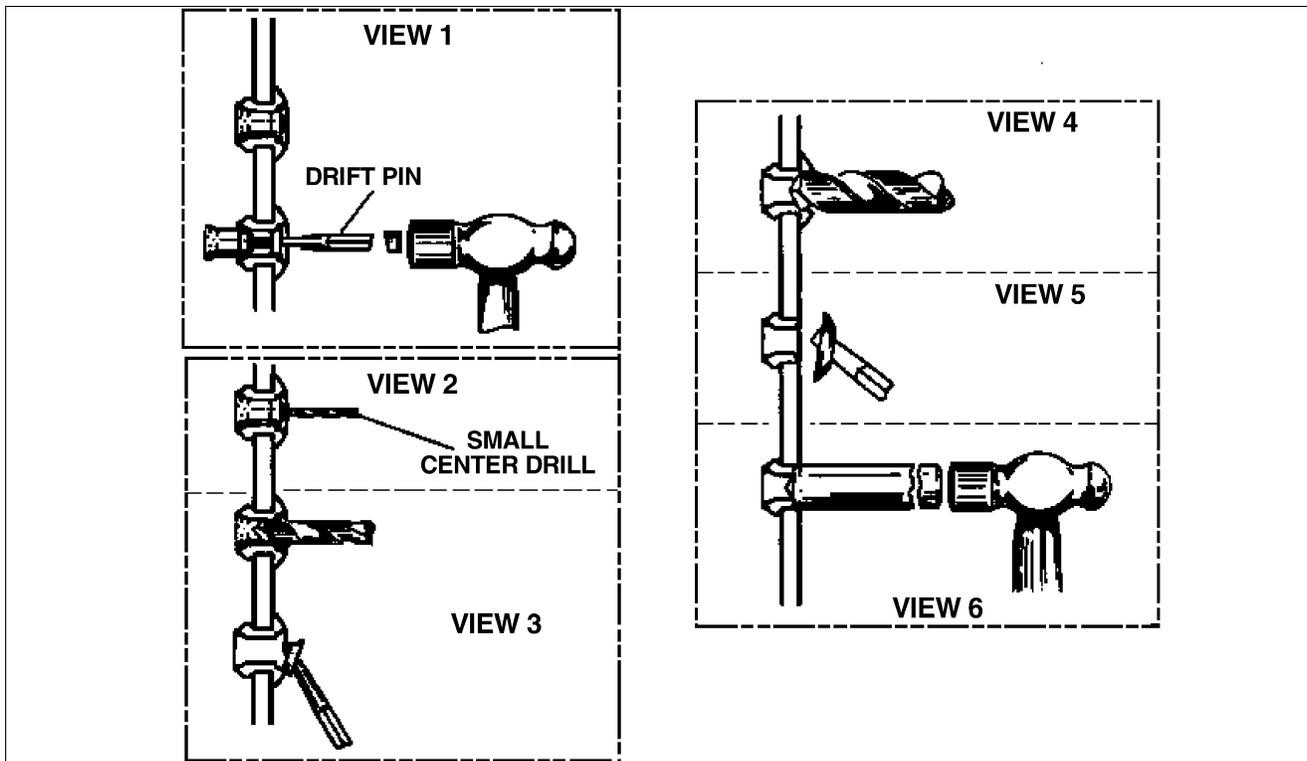

Figure 20-3. Removing Cherrylock Rivets
- (1) To remove the lock in thick material, use a tapered steel drift pin to drive out rivet stem. (See Figure 20-3, View 1.)
- (2) To remove rivet lock in thin material, drill away tapered portion of stem to destroy the lock. Use a small center drill bit on top of the rivet stem to provide a guide for a larger bit. (See Figure 20-3, Views 2 and 3.)
- (3) Pry remainder of locking collar out of rivet head with a drift pin. (See Figure 20-3 View 3.)
- (4) Drill almost, but not completely, through head of rivet. Use a drill bit the same size as the rivet shank. (See Figure 20-3, View 4.)
- (5) Use a drift pin as a lever to break off rivet head. (See Figure 20-3, View 5.)
- (6) Drive out remaining rivet shank with a pin having same diameter as rivet shank. (See Figure 20-3, View 6.)